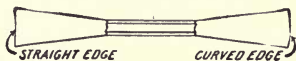

FIG. 133.—A Scraper.
**309. Use of Scrapers.**—When a job cannot be finished accurately enough with a file, a tool called a scraper (Fig. 133) is used. Scrapers are generally made from octagonal steel flattened on both ends and tempered very hard to a